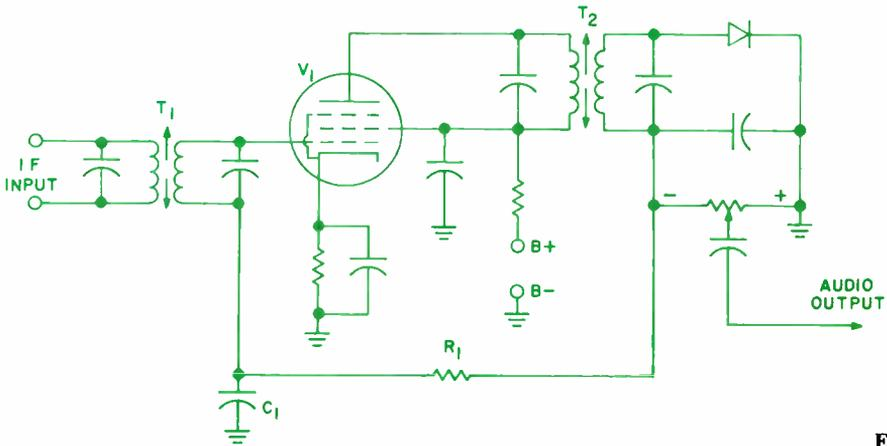

Fig. 3
Fig. 3 shows how this voltage can be put to work. Resistor R_1 and capacitor
3. Capacitor C_1 in Fig. 3 is used to provide delayed agc.